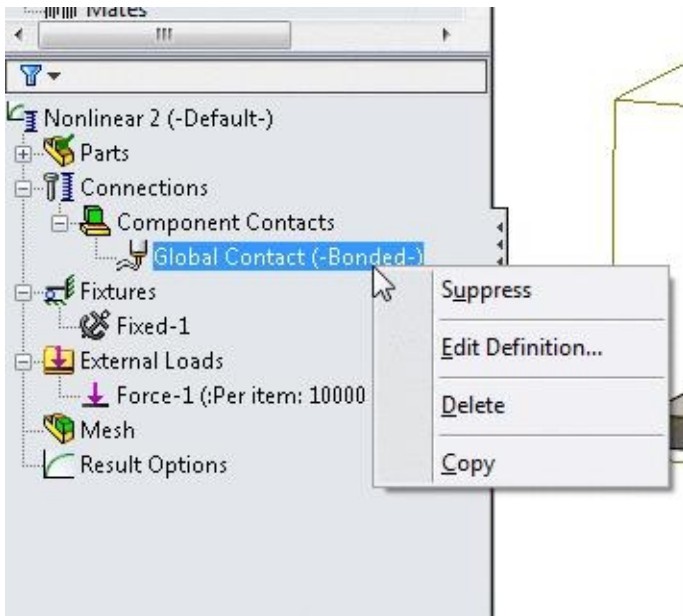

Figure-17. Option to be selected
- Expand the **Component Contacts** node and right-click on the **Global Contact (-Bonded-)** option; refer to Figure-17.